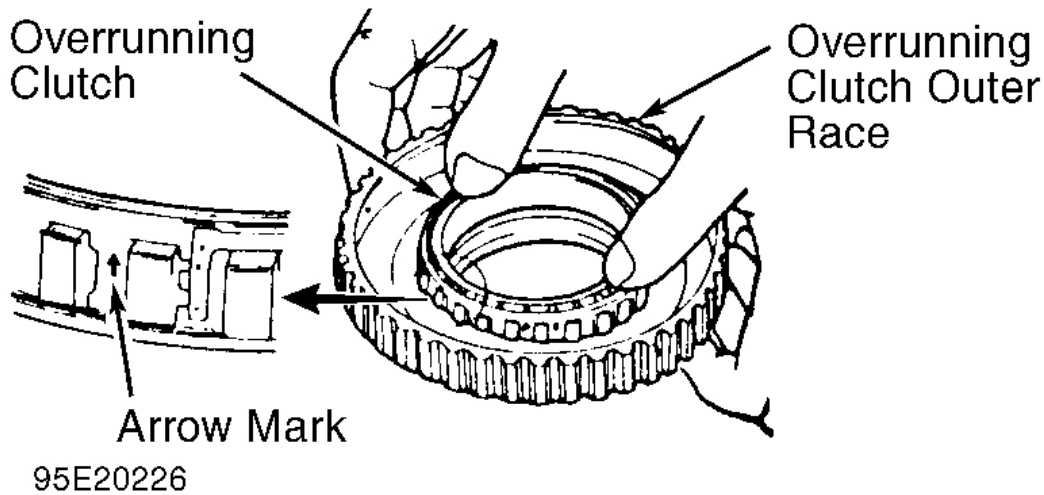

Fig. 27: Installing Overrunning Clutch
4. Install the overrunning clutch end plate on the inside of the overrunning clutch outer race. Press the overrunning clutch into overrunning clutch outer race. Make sure the arrow mark on the outside of the overrunning clutch is pointing upward. See **Fig. 27**.